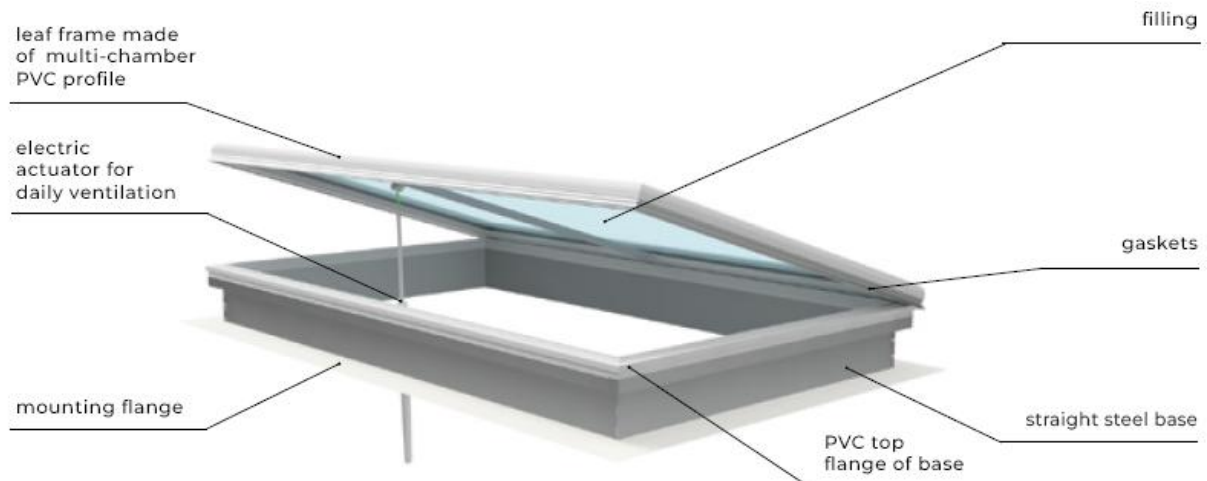
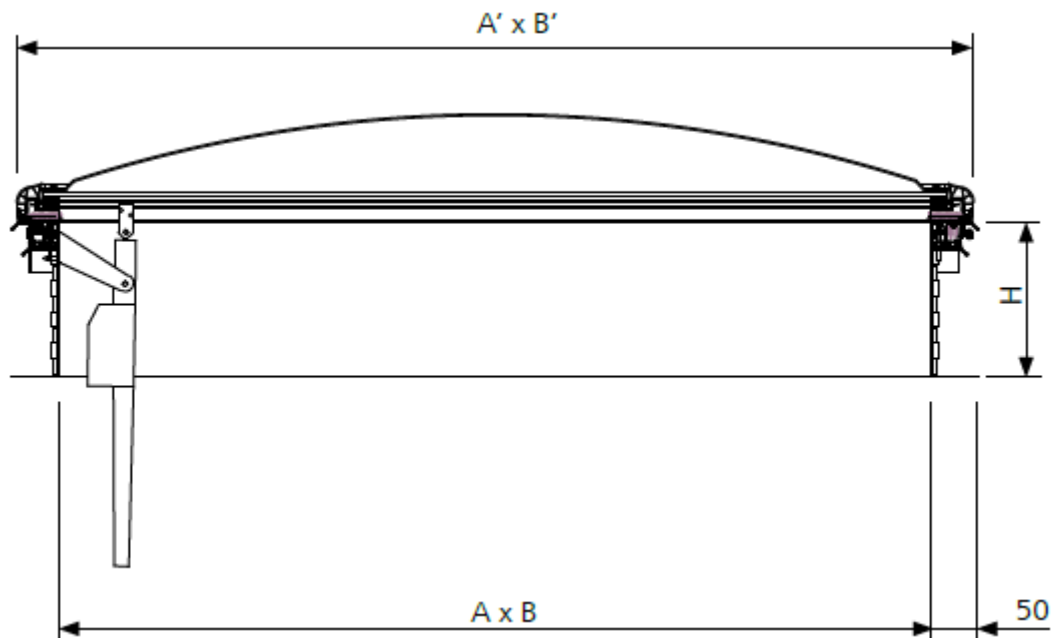

Fig. 9. Ventilation vent of mcr ULTRA THERM type with straight steel base.
Fig. 10. Cross-section through ventilation vent of mcr ULTRA THERM type with straight steel base.
- b) with metal base* → see Fig. 9, Fig. 10.